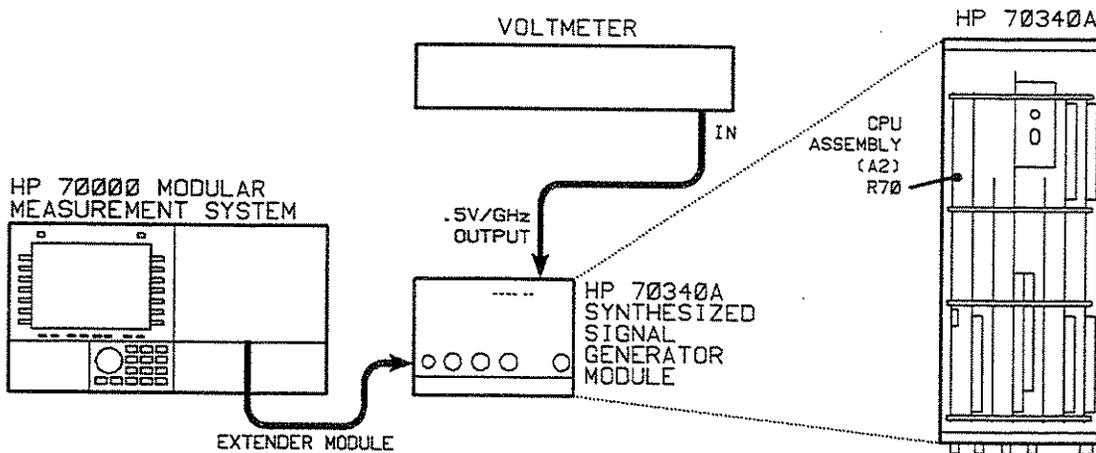

Figure 2-3. 0.5V/GHz Output Equipment Setup
3. Connect the voltmeter to the .5 V/GHz Output located on the Signal Generator's rear panel as in Figure 2-3.